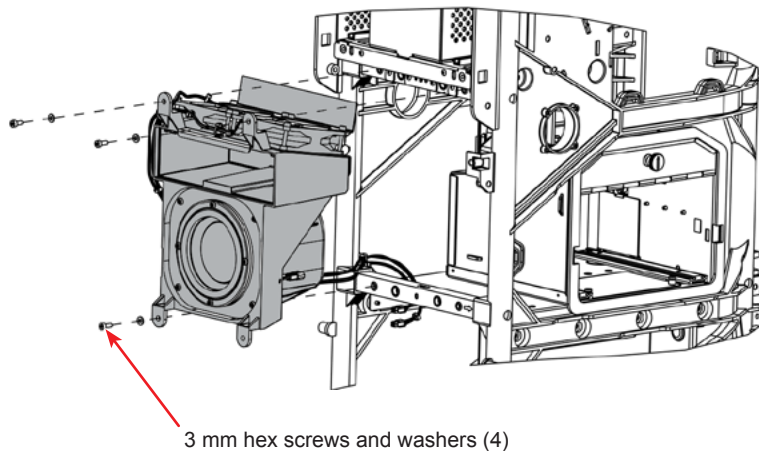

Figure 3-29 Filter/Subwoofer Box Removal
- 28.5 Remove four 3 mm hex screws and washer securing Sub-woofer/fan assembly to chassis (see Figure 3-29).